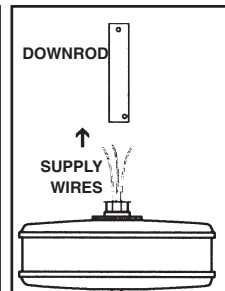
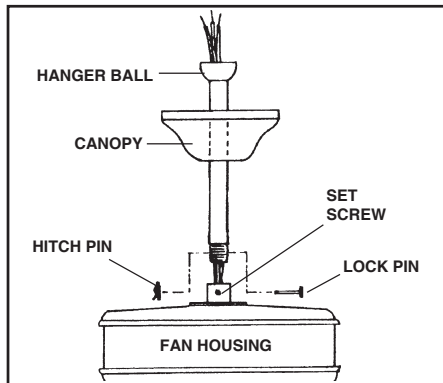

FIG. 8
FIG. 9
Step 4. Carefully feed fan wires up through the downrod. (Fig. 8) Thread the rod into the coupling, next line up holes, secure with the lock pin and hitch pin. Tighten set screws. (Fig. 9)
Step 5. Slip canopy onto downrod. (Fig. 9). Carefully reinstall hanger ball onto rod being sure that crosspin is in correct position, set screw is tight and wires are not twisted.